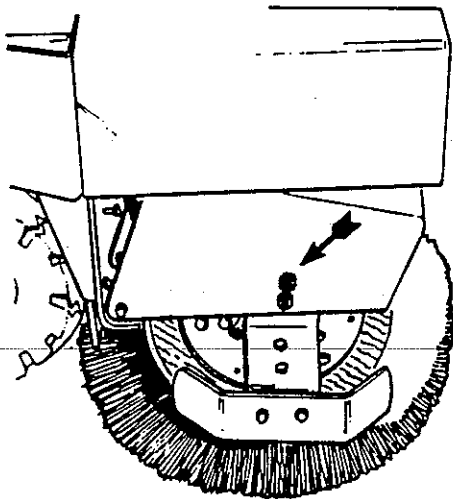

Figure 4-32. Side Broom Height Adjustment
3. Loosen the side broom adjusting nuts located on the exterior of the side broom arm assembly, see figure 4-32.